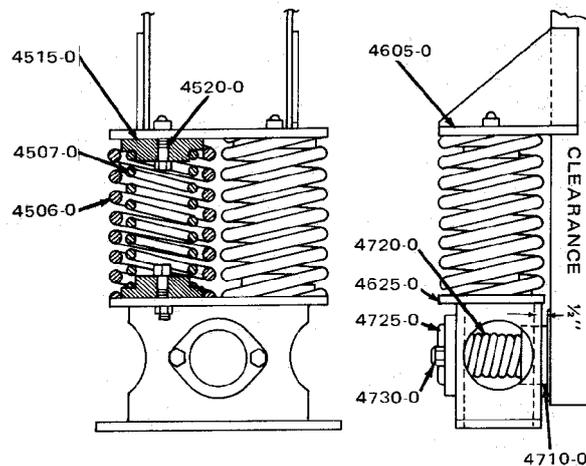

Figure 2.1 Fixed bracket mounting with inner and outer steel coil springs.
Figure 2.1 shows the fixed bracket mountings with four springs per mount, including two larger diameter outer springs and two smaller diameter inner springs. A spring-loaded **friction check** is located in the pedestal base.
7. Install friction checks as shown in Figure 2.1.